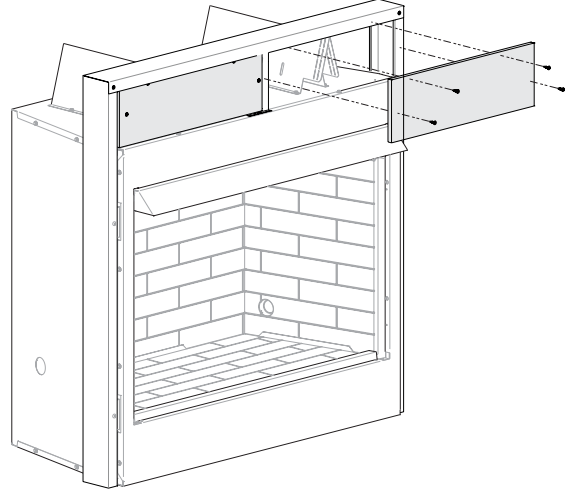

Figure 11
- Locate the two non-combustible boards and place them above the fireplace as shown in Figure 11. Attach the non-combustible board to the studs with six 10-16 flathead screws.
- Secure the non-combustible board to the middle bracket using two 10-16 flathead screws as shown in Figure 11.